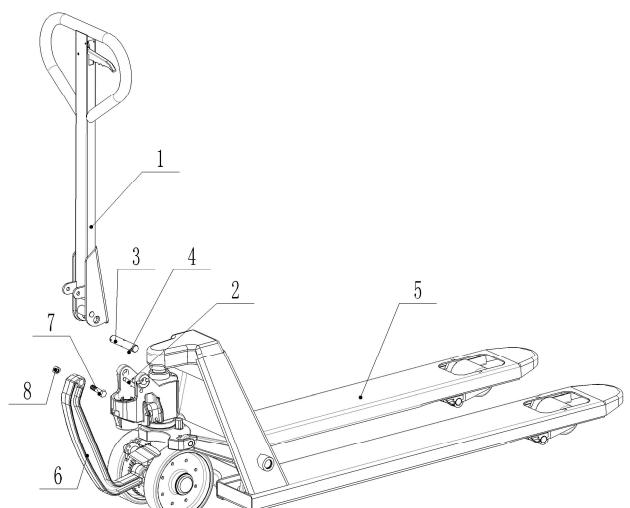

Fig.5 Tiller assembling ER-A
d) Press the tiller arm down; take away the pin (2, Fig. 5).
e) Set the control lever of the handle to 'RAISE' position, then raise the lever plate with the pin (2, Fig. 5) and insert the adjusting bolt into the front slot of lever plate. Note: Keep the adjusting nut under the lever plate.
f) Use a hammer to insert the 2nd dowel pin (5, Fig. 5) into the 2nd hole of the axle.